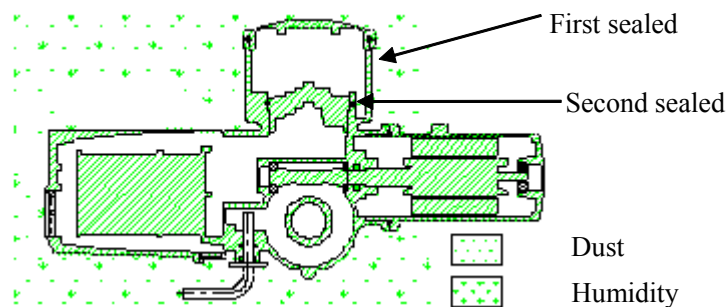

Fig 3-1 Double sealed
3.1 Actuator working theory (see to Fig. 3-1)
All HKC actuators are housed double-sealed watertight enclosure to completely protect the internal equipment against the dust and the humidity even if the terminal box cover is removed as long time in the field. Refer to Fig. 3-1. The type of waterproof actuator can running 48 hours while the actuator immerge into water deep 3 meters, but does not mistake the actuator can running with long time that immersed into water. This feature just only provides a short time protection while happening the accident. In addition, user has the responsibility to ensure the sealed of the cable entry.